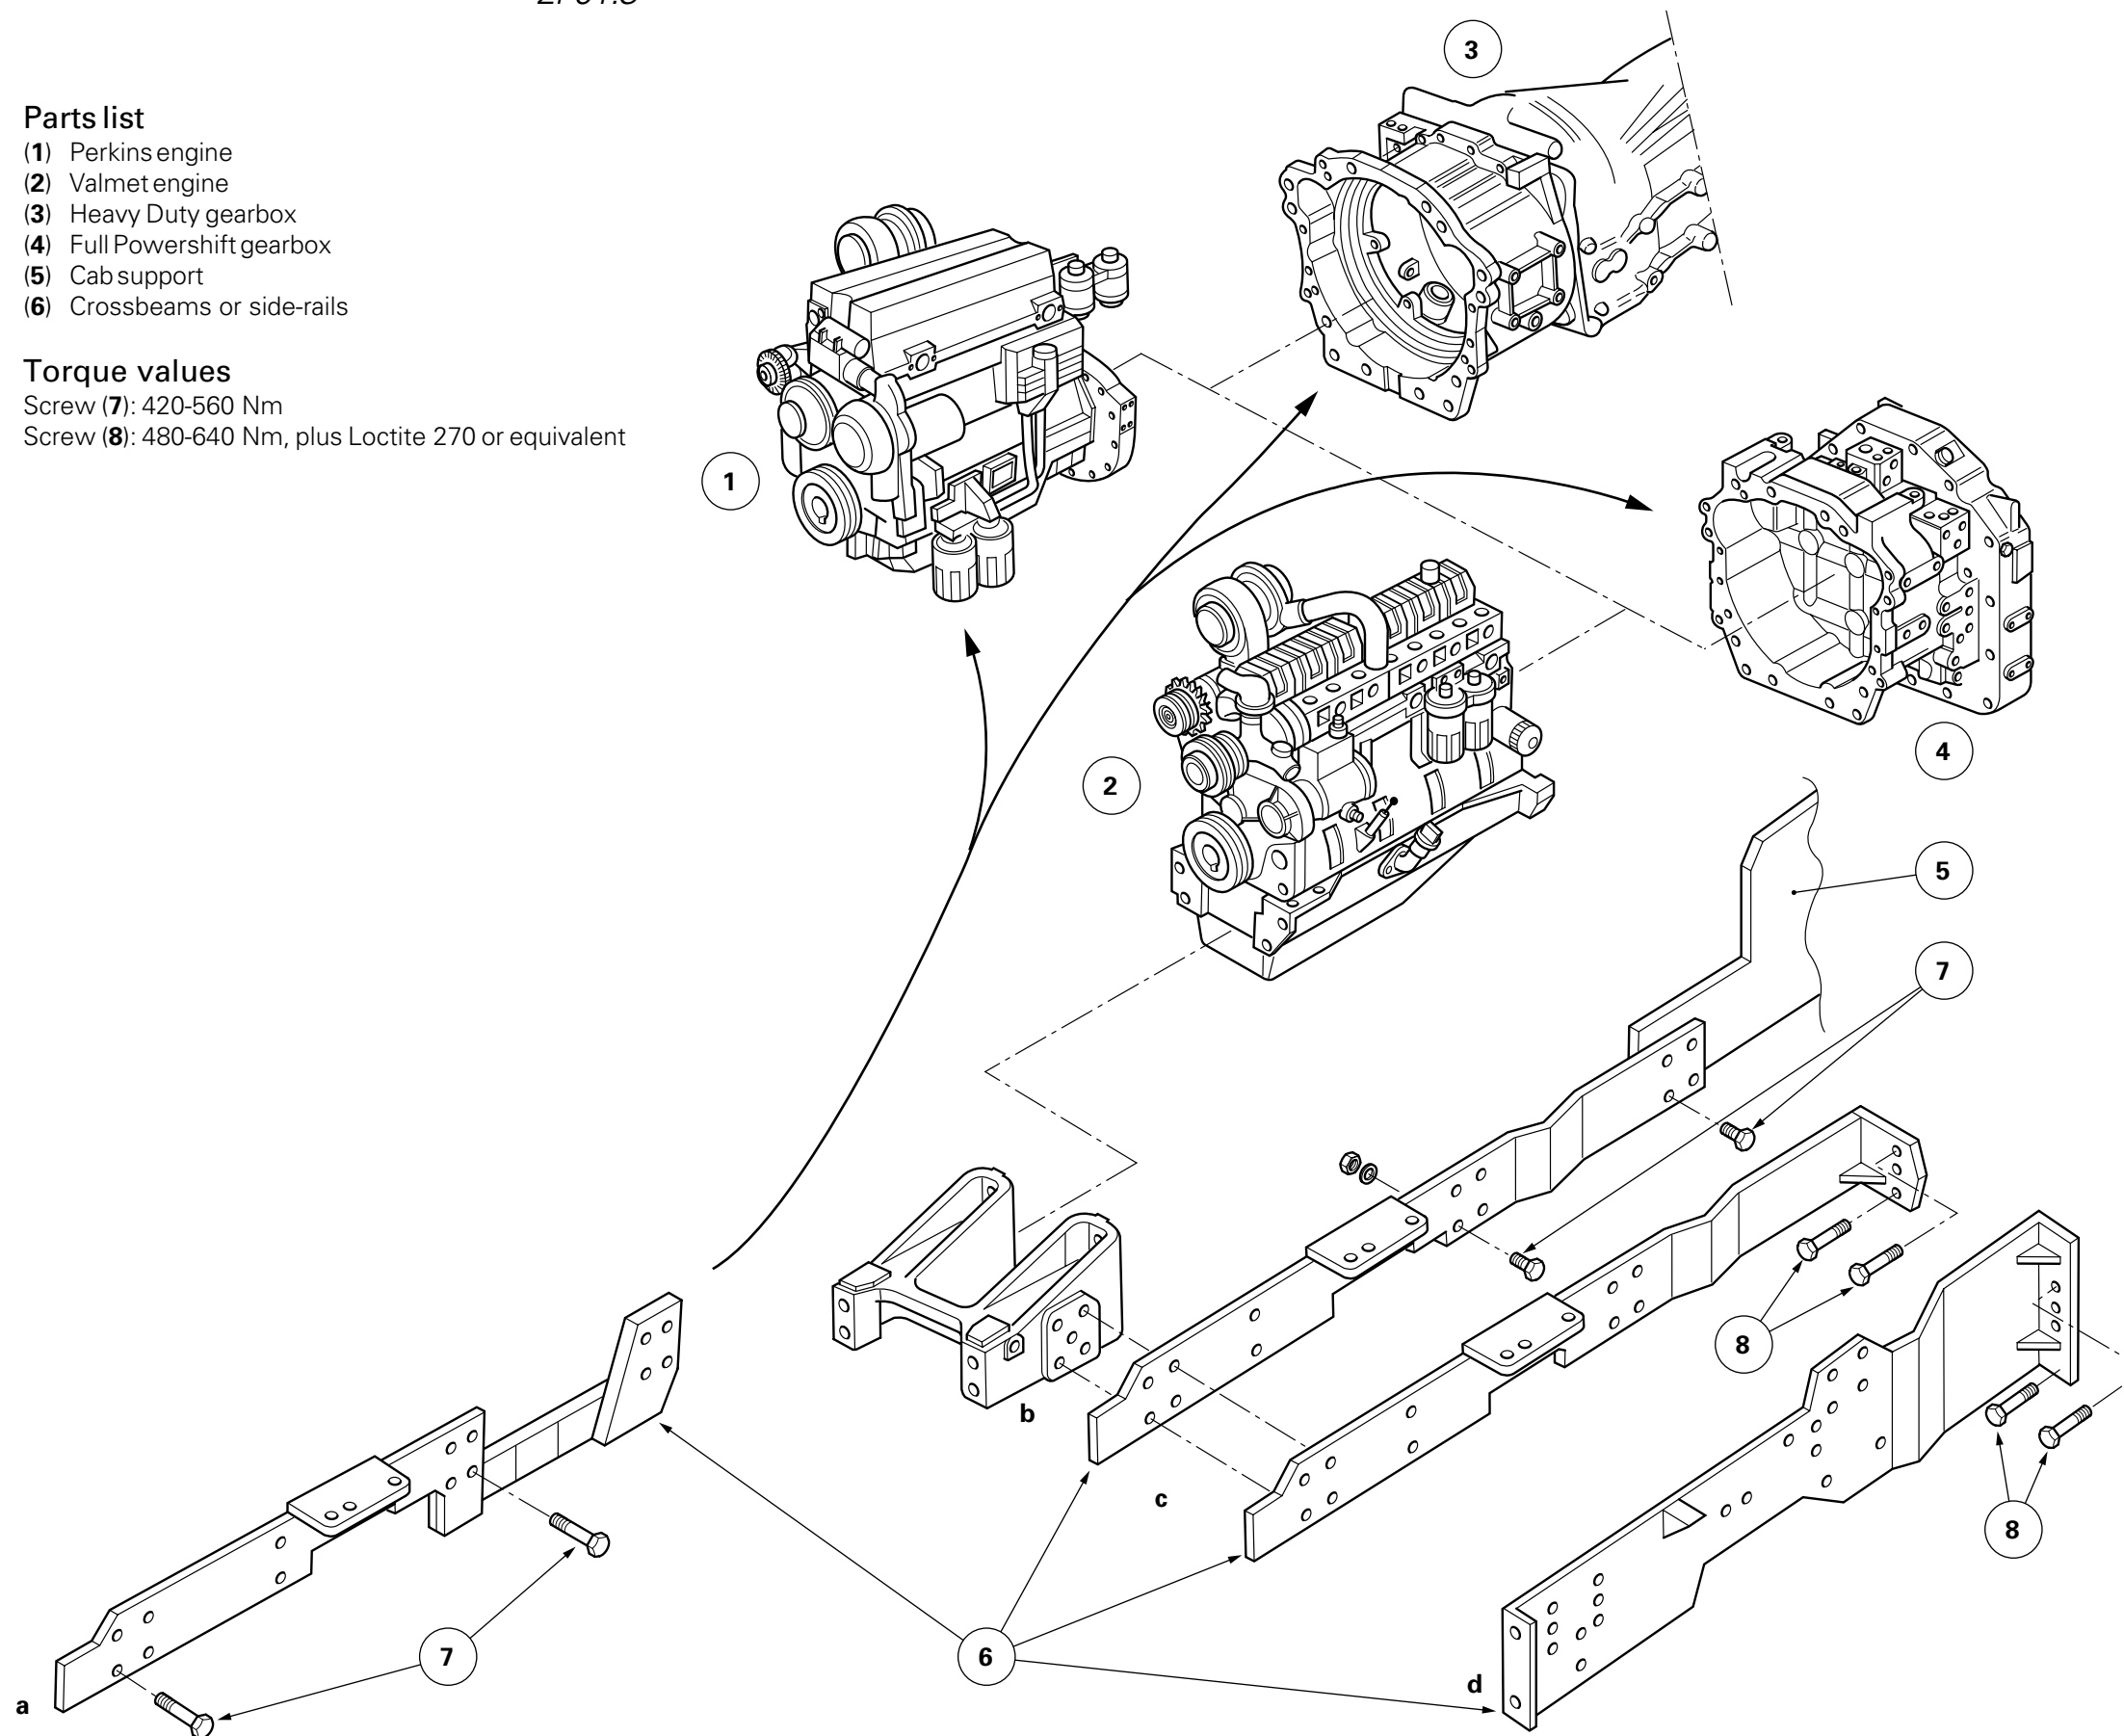

Fig. 1
Tractors 8270 and 8280 are fitted with side-rails whose cross-section allows the fitting of adjustable thrust bearings used during oscillating of the ZF 5052 front axle. If access to screw (8) (Fig. 1) proves difficult, remove the left footstep and support, and the side fuel tank.